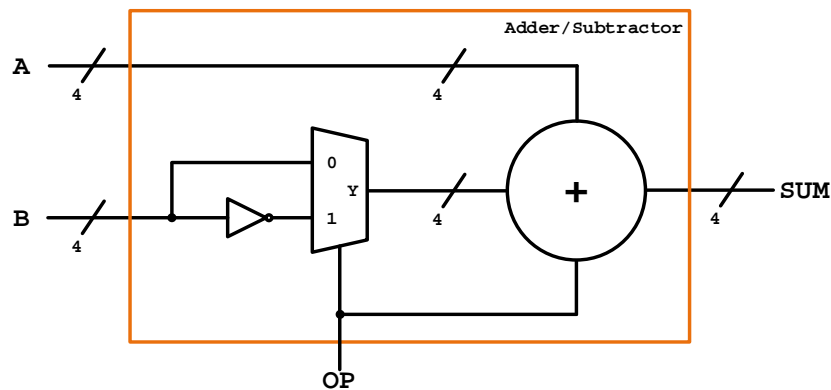

Figure 4: Adder / Subtractor
5. Use structural (hierarchical) design principles and modify the Verilog code in 2.2.3.4 in order to create a 4-bit adder/subtractor circuit. Please note that instead of “CIN” signal (Carry-IN) used in 2.2.3.4, use “OP” (operation) signal as depicted in Figure 4. This will make it easier to get the 2’s complement of a number when it is necessary. Note that when the “OP” signal changes, the operation performed also changes. Also, please consider that “OP” signal also affects one of the input signals coming to the addition/subtraction unit. See table